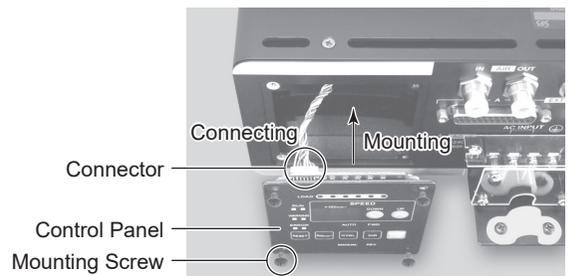

Fig. 23
- (3) Connect the connector inside the CONTROLLER to the connector of the rear of the Control Panel. (Fig. 23).
- (4) Re-attach the Control Panel using the 4 mounting screws (Fig. 23).